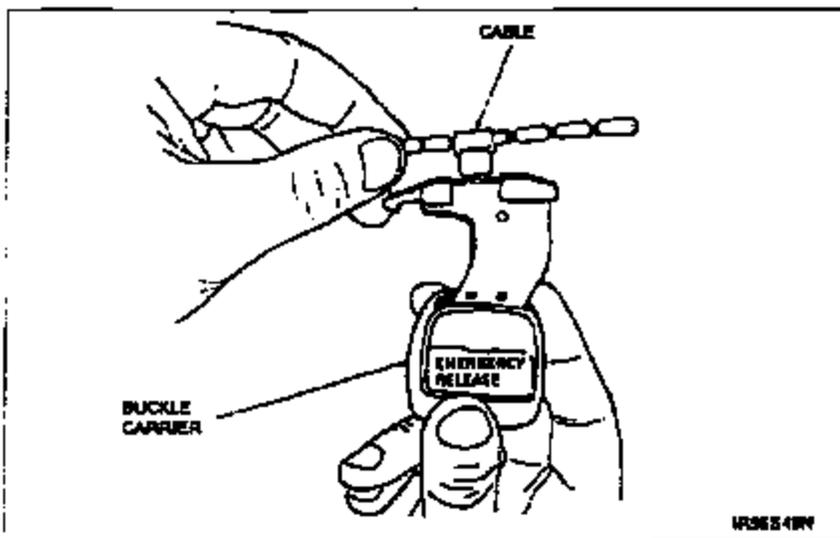

Figure 10
2. Install buckle carrier onto cable. See Figure 10.